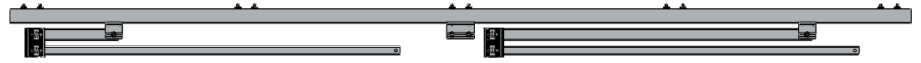

Figure 3
4.2.2 Before installation, it looks as shown Figure 3.